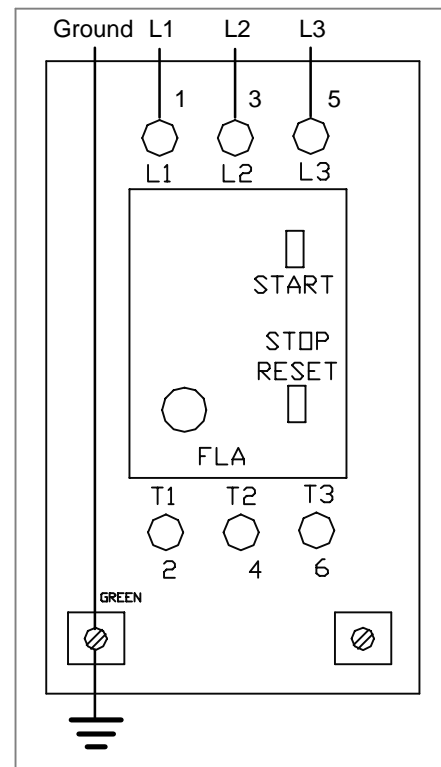

Figure 15
- Insert line cord through grip (W) and tighten nut.
- For correct three-phase motor shaft rotation, connect line phase sequence L1, L2 & L3 to terminals as shown (Figure 15).
**NOTE:** The motor ground wire is also attached to left terminal marked  $\perp$  (Figure 15).
- Attach ground wire to lower left terminal marked  $\perp$  (see Figure 15).